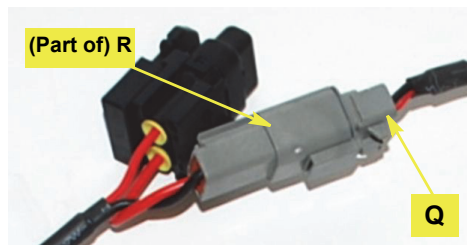

Figure 7c: Power cable to junction box cable
- d. Connect the gray connector of the power cable **Q** (routed into the cab at step 7a) to the gray cable from the junction box **R** (Figure 7c).